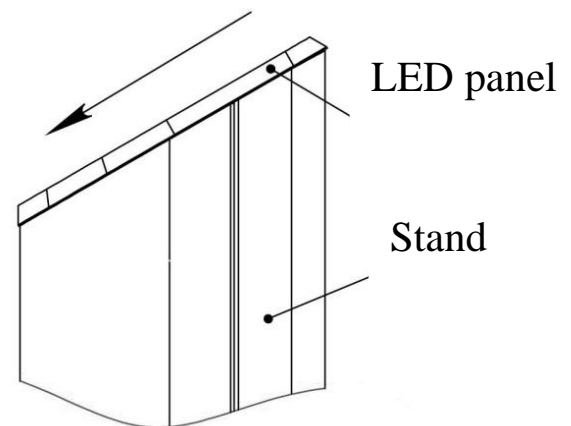

Fig. 5
5.2. Slide the LED panel to the stop in the direction indicated in Fig. 5. Carefully lift the panel.